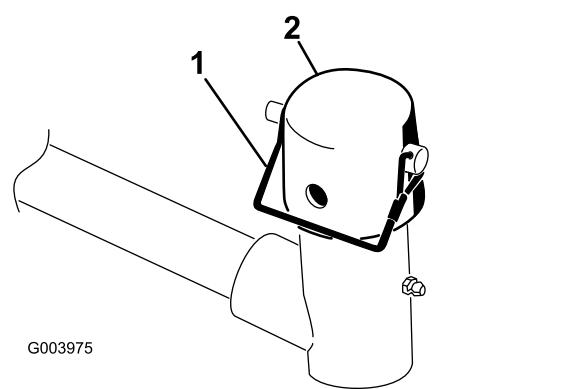

Figure 9
- 8. Remove the snapper pin and the cap from the lift-arm pivot yoke (Figure 9).
Note: Use the slot if a steering cutting unit is desired or use the hole if the cutting unit is to be locked in position (Figure 9).